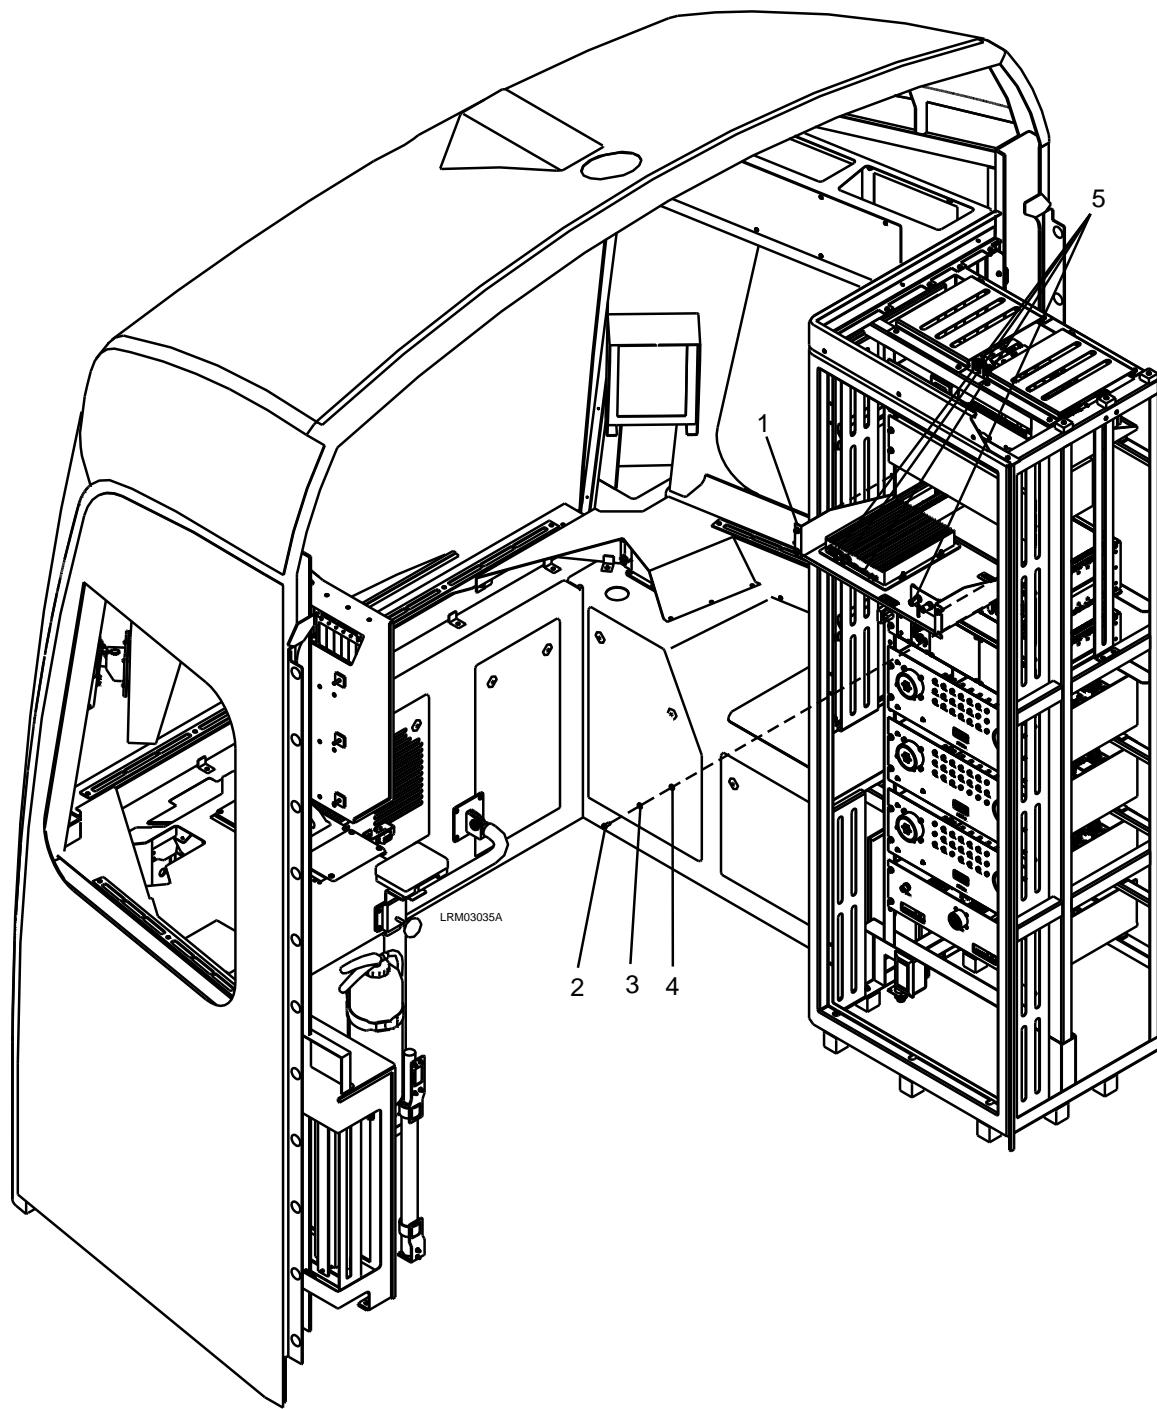

Figure 7-29: Communication Control Unit (CCU)
2. Disconnect the electrical connectors (5) to the CCU (1). See Figure 7-29.
3. Remove the four M6 x 16 screws (2), M6 lock washers (3), and M6 plain washers (4).
4. Carefully remove the CCU (1).